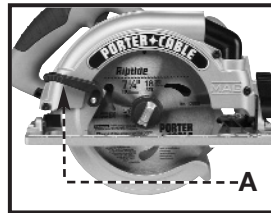

Fig. 20
⚠ WARNING Use the lever (A) Fig. 20 provided on the telescoping guard when you have to retract the telescoping guard manually.